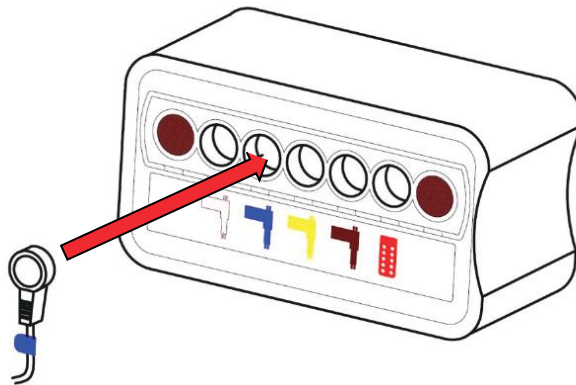

Figure 10: Connecting the controller
2. The connectors to plug into the controller are all colour coded, as are the sockets on the controller (*Figure 10*).